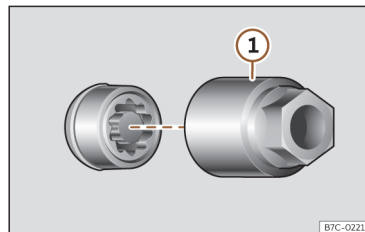

Fig. 194 Anti-theft wheel nut with cap and adapter.
- Insert the special adapter >>> **Fig. 194** ① (vehicle tools >>> page 287) onto the anti-theft wheel nut and push it on as far as it will go.